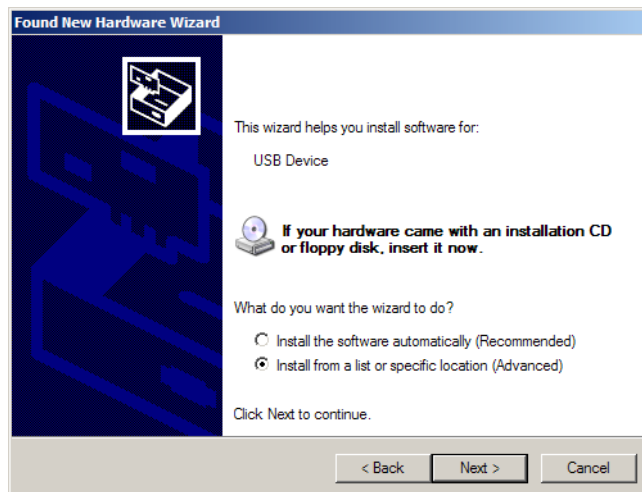

FIGURE 7. Installation mode
2. Select that Windows should not search for the drivers. Then select “Install from a list or specific location” when prompted for installation mode (see figure 7)